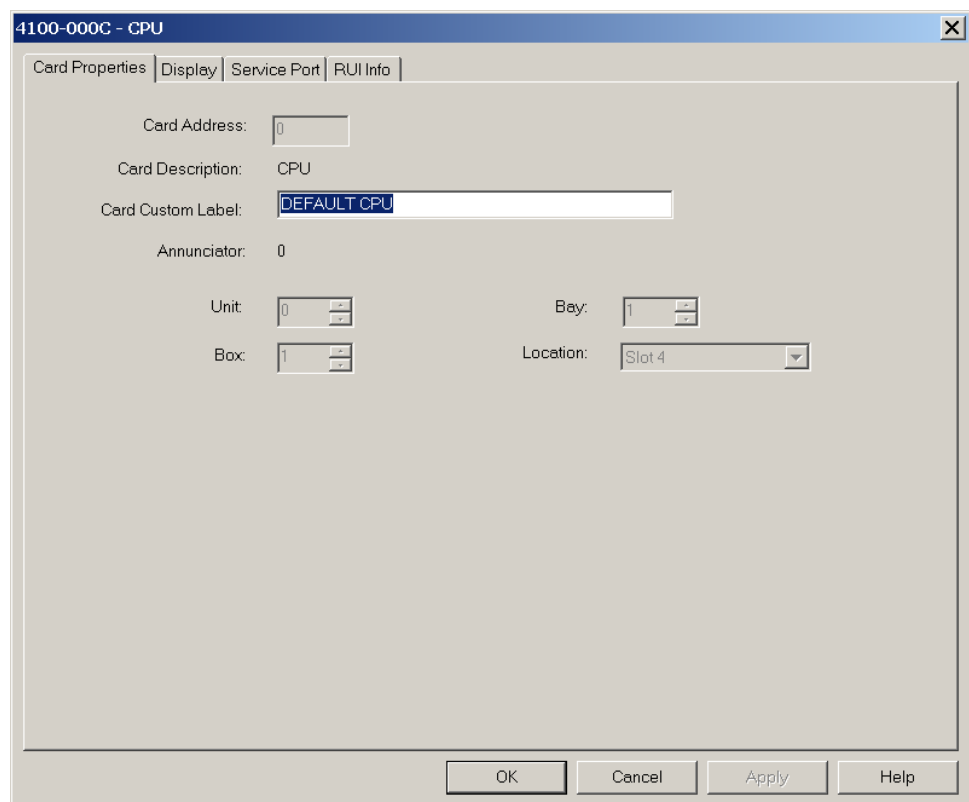
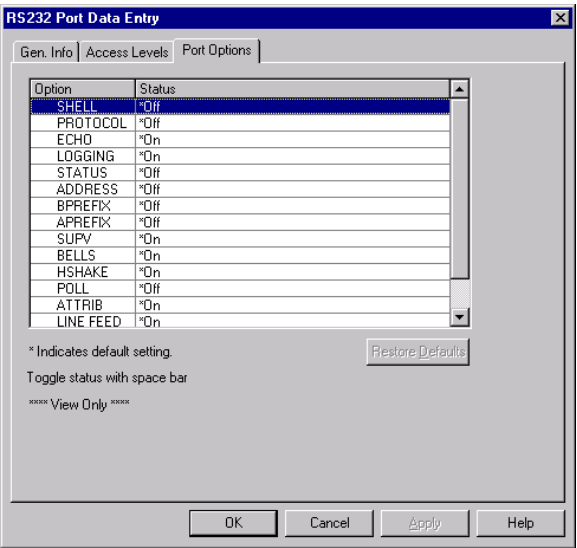

Figure 6-2. Service Port Card Properties Dialog
Figure 6-5. Port Data – Port Options Tab
- To access the Service Port on the CPU card, expand the Unit 0, Box 1, and Bay 1 icons, double click on the CPU Card icon, and select the Service Port tab. A window similar to the one shown in Figure 6-2 appears.
- To access the Service Port on the 4120 Network Card, expand the Unit, Box, and Bay icon combination containing the network card, double click on the network card icon, and select the Service Port tab. A window similar to the one shown in Figure 6-2 appears.
Click on the Port Data button (refer back to Figure 6-2) and select the Gen. Info tab. This tab, shown below, includes the following three fields.
Click on the Port Data button (refer back to Figure 6-2) and select the Access Levels tab. This tab allows you to set the access level for the various system operations that can be carried out via the service port. Note that these access levels apply only to actions performed through the service port. Refer to “Restricting Access to Display Functions,” in Chapter 4 for information on setting access levels and passcodes for front panel display functions.
Click on the Port Data button (refer back to Figure 6-2) and select the Port Options tab. This tab, shown in Figure 6-5, contains options that apply to the way data appears on the display connected to the service port. These are read only fields.